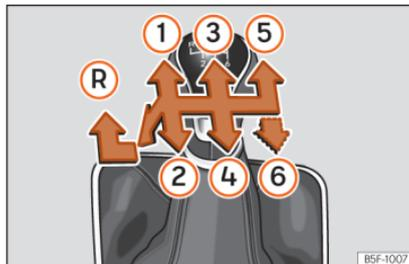

Fig. 214 Gear shift pattern of a 5 or 6-speed manual gearbox.
The position of the gears is indicated on the gearbox lever » **Fig. 214**.
- With the gearbox lever in neutral, push it downwards, move it to the left as far as it will go and then forwards to select reverse » **Fig. 214 (R)**.